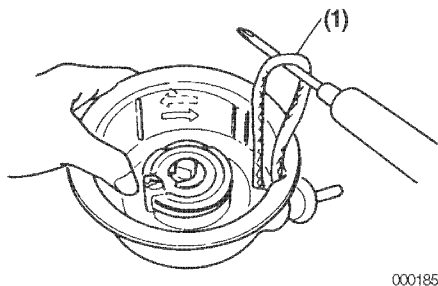

Figure 8-37
2. Pull the starter rope out approximately 12 in. (30 cm) until the notch on the reel lines up with the starter rope. Hold the reel and use a screwdriver to pull the starter rope up (Figure 8-37, (1)).